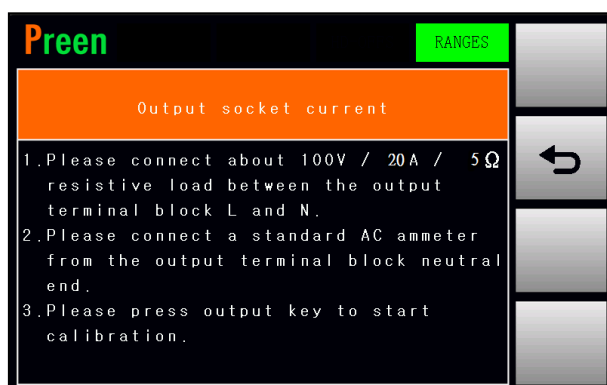

Figure 4-8-1 Enter into the page which calibrates the output socket current.
1. Press the item **Output socket current** repeatedly to enter into the page which calibrates the output socket current (refer to Figure 4-8-1).